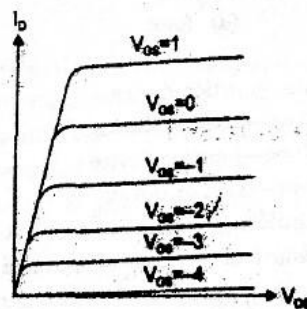

Fig. 1.49. Output Characteristics of a MOSFET
- (ii) Unlike the FET, a MOSFET has no gate diode. because of this, the device can be operated with negative or positive gate voltage as shown in the 'Output characteristics shown in fig. 1.49
Output characteristics shown in fig. 1.49